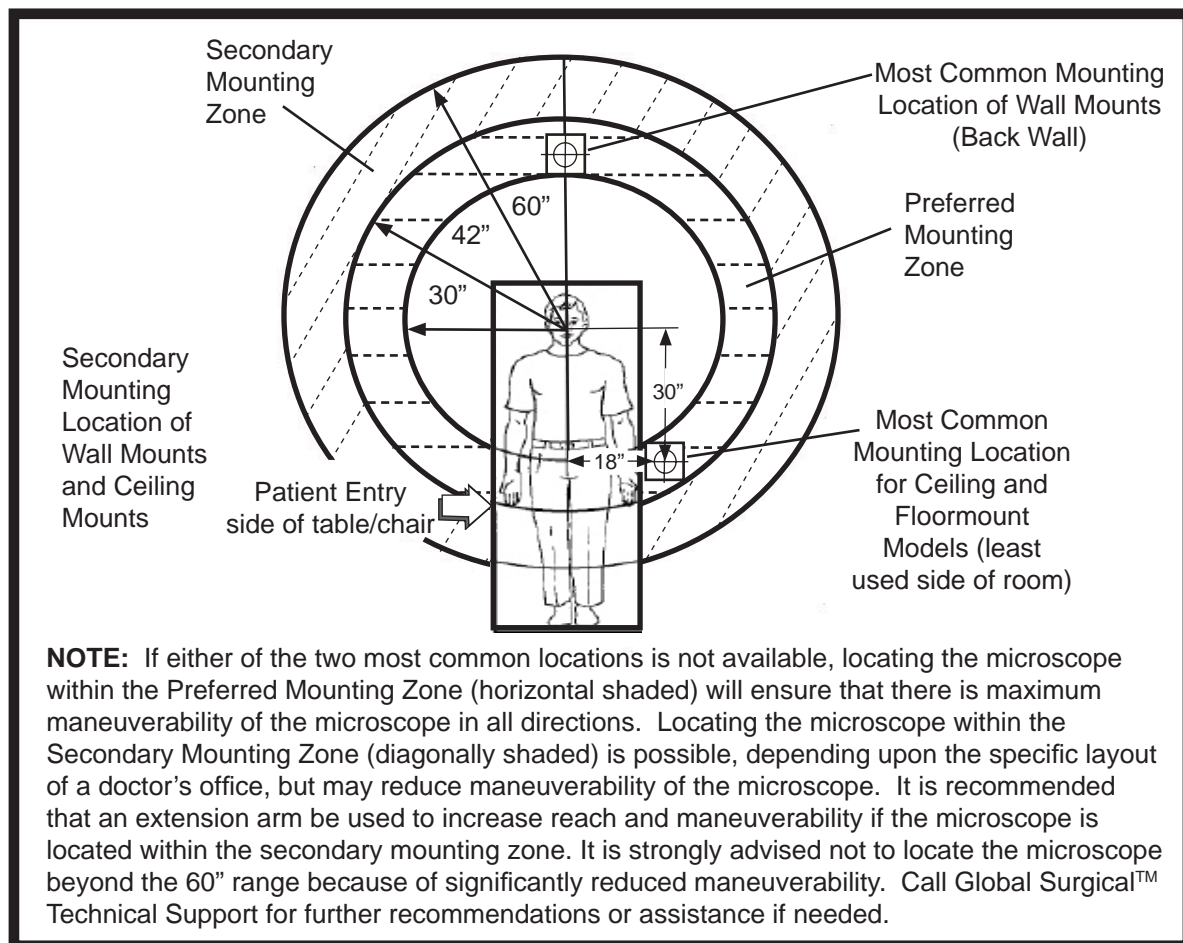
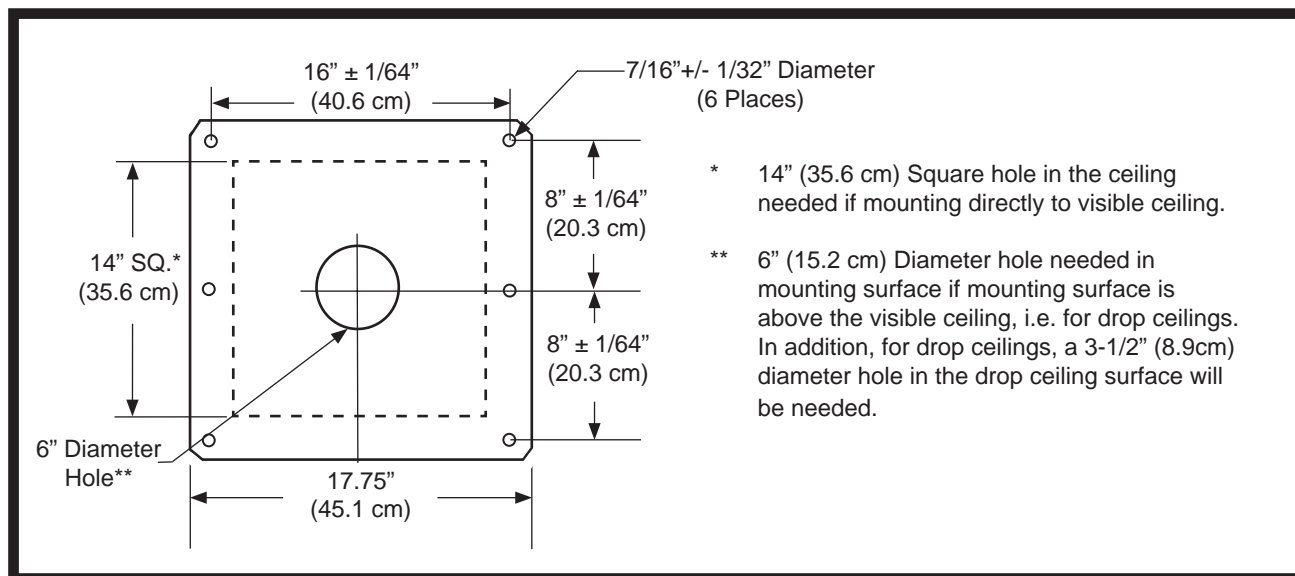
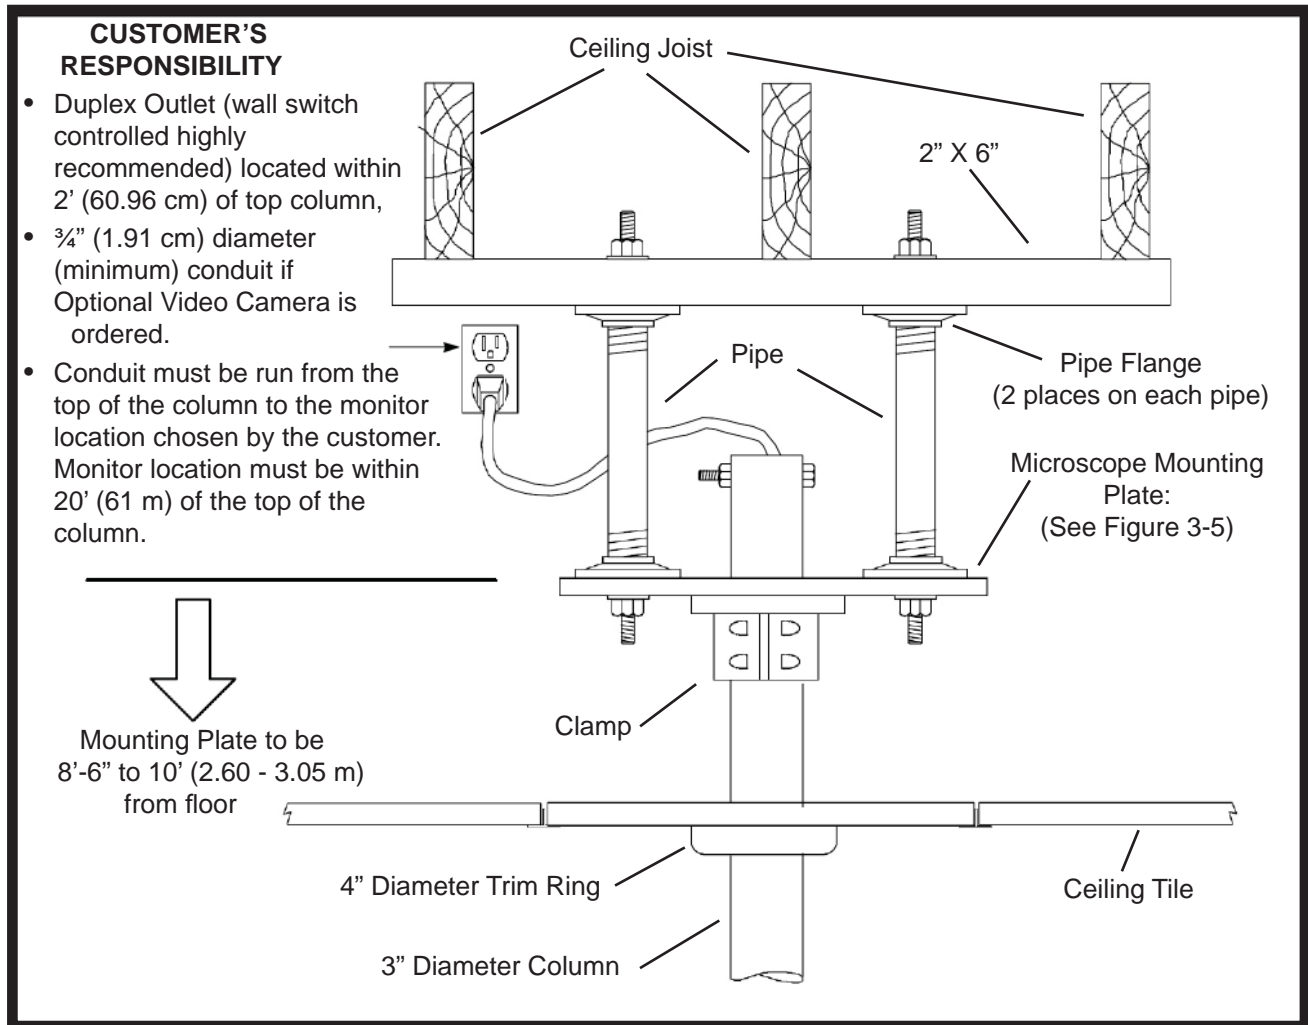

Figure 4-1. Preferred Mounting Locations
Figure 4-7 . Mounting Surface Template for Ceiling Mount
Figure 4-9. Possible Mounting Structure for Ceiling Mount Microscope
Before installation of the Wallmount Microscope System begins, a survey should be done to ensure there is proper space available. Refer to Figure 4-1 above.
It is recommended that construction contractors perform the following installation procedures. The Ceiling Mount Model should be installed on the side of the room with the least amount of traffic. Refer to Figure 4-1 and proceed as follows. It should be determined where the unit will be connected to an electrical power source. If the source is to be inside the ceiling and controlled by a wall switch, a grounded receptacle (115 VAC, 15A; 230 VAC, 15A), provided by the customer, must be installed prior to the installation of the Mounting Plate. Refer to Figure 4-7.
1. Using the template provided, mark the positions of the six (6) mounting screws on the ceiling joists. See Figure 4-7.
2. Drill six (6) 1/4" (6 mm) pilot holes into the joists as marked above.
3. Place a 3/8" flat washer and cup over each of the six (6) 3/8" X 3" hex head wood screws.
7. Loosen the four (4) hex socket cap screws which hold the Column Clamp together.
10. Secure the column by tightening the four (4) screws in the Column Clamp.
Many newer constructions use drop ceilings. Whenever this type of application is used, **all supporting structure and electrical service (115 VAC, 15A, 50/60 Hz; 230 VAC, 15A, 50/60 Hz) is the customer's responsibility and must be completed before the installation can proceed.** See Figures 4-7 and 4-9 and proceed as follows.
- TO AVOID PERSONAL INJURY TWO (2) PEOPLE ARE REQUIRED FOR PROPER INSTALLATION.
2. Using the template provided, mark the positions of the six (6) mounting screws on the mounting surface. See Figure 4-7.
3. Drill six (6) 1/4" (6 mm) pilot holes into the joists as marked above.
4. Place a 3/8" flat washer and cup over each of the six 3/8" X 3" hex head lag screws. Refer to Figure 4-9.
9. Loosen the four (4) hex socket cap screws which hold the Column Clamp together.
10. Loosen the two (2) set screws in the black Trim Ring (not shown), slide the ring down close to the Lightsource Housing.